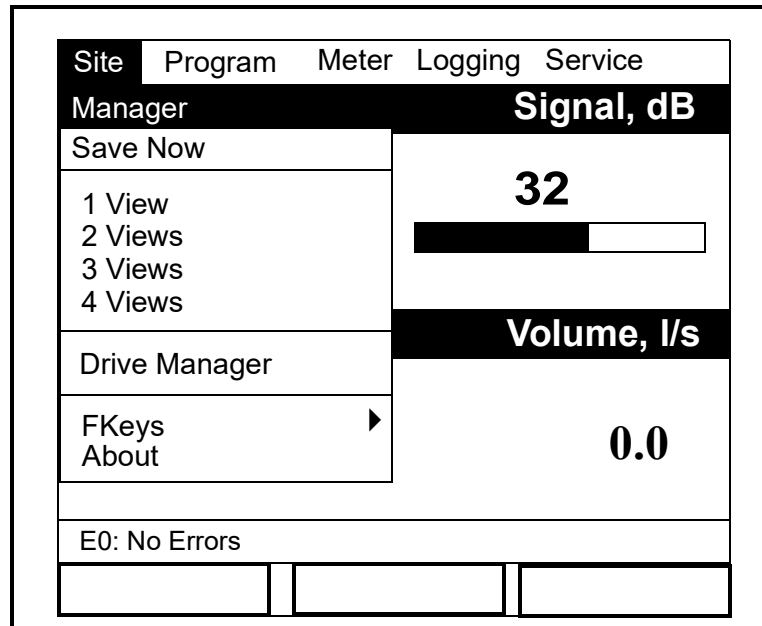
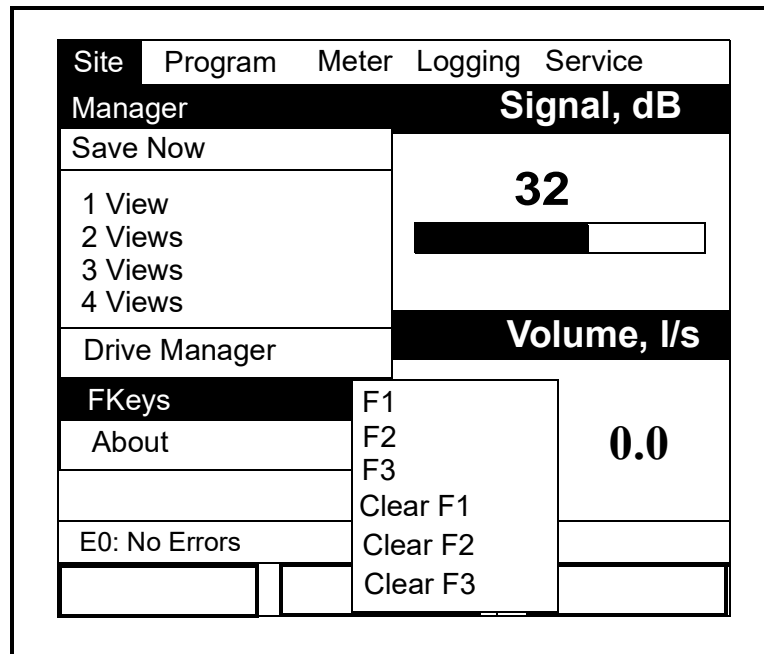

Figure 91: The Site Menu
Figure 93: The FKeys Menu
To enter the Site Menu, press the **[MENU]** key at the lower right of the PT878GC keypad. The Menu Bar replaces the Status Bar at the top of the screen. The Site Menu will be highlighted in the upper left corner. Press **[ENTER]** or the **[▼]** arrow key. The screen now appears similar to Figure 91 below. While following the programming instructions, refer to Figure A-2 on page A-2 of Appendix A, *Menu Maps*.
2. From the Site Menu (shown in Figure 91 above), use the **[▼]** or **[▲]** arrow keys to move to the desired number of views (1 View, 2 Views, etc.) Press **[ENTER]**.
- From the Site Menu (shown in Figure 91), use the [▼] or [▲] arrow keys to move to the FKeys entry on the menu. Press [ENTER]. The screen now appears similar to Figure 93 below.
2. From the Site Menu (shown in Figure 91), use the **[▼]** or **[▲]** arrow keys to move to the FKeys entry on the menu. Press **[ENTER]**. The screen now appears similar to Figure 93.